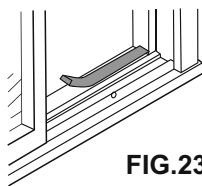

FIG.23
**26** Peel off the protective backing from the track seal, and stick the seal to the window sill on the outside of the bottom jamb as shown (FIG.23).